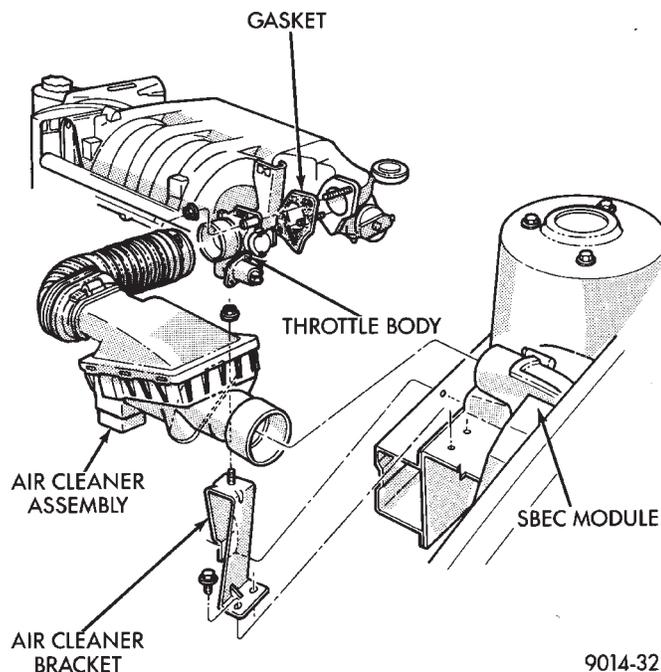

Fig. 2 Throttle Body Assembly 3.3L
- (5) Install front exhaust manifold and attach exhaust crossover.
- (6) Install front manifold heat shield and tighten attaching screws to 15 N·m (130 in. lbs.) (Fig. 2).
- (3) Remove air cleaner to throttle body hose assembly (Fig. 2).